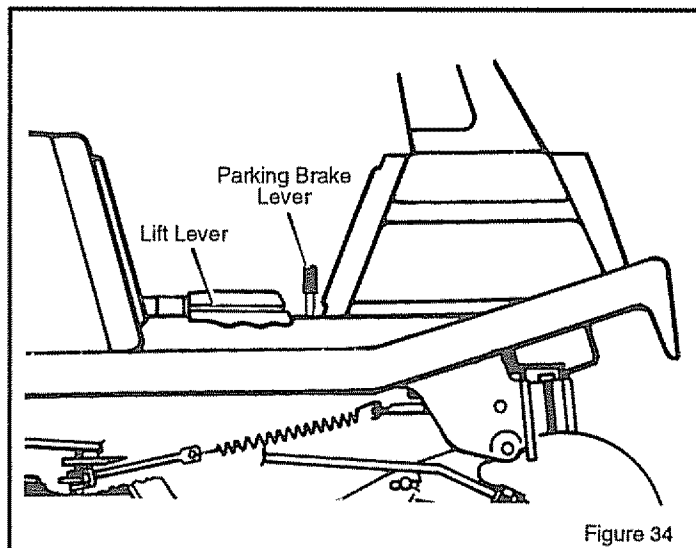

Figure 34
2. Lift the **parking brake lever** (Figure 34).